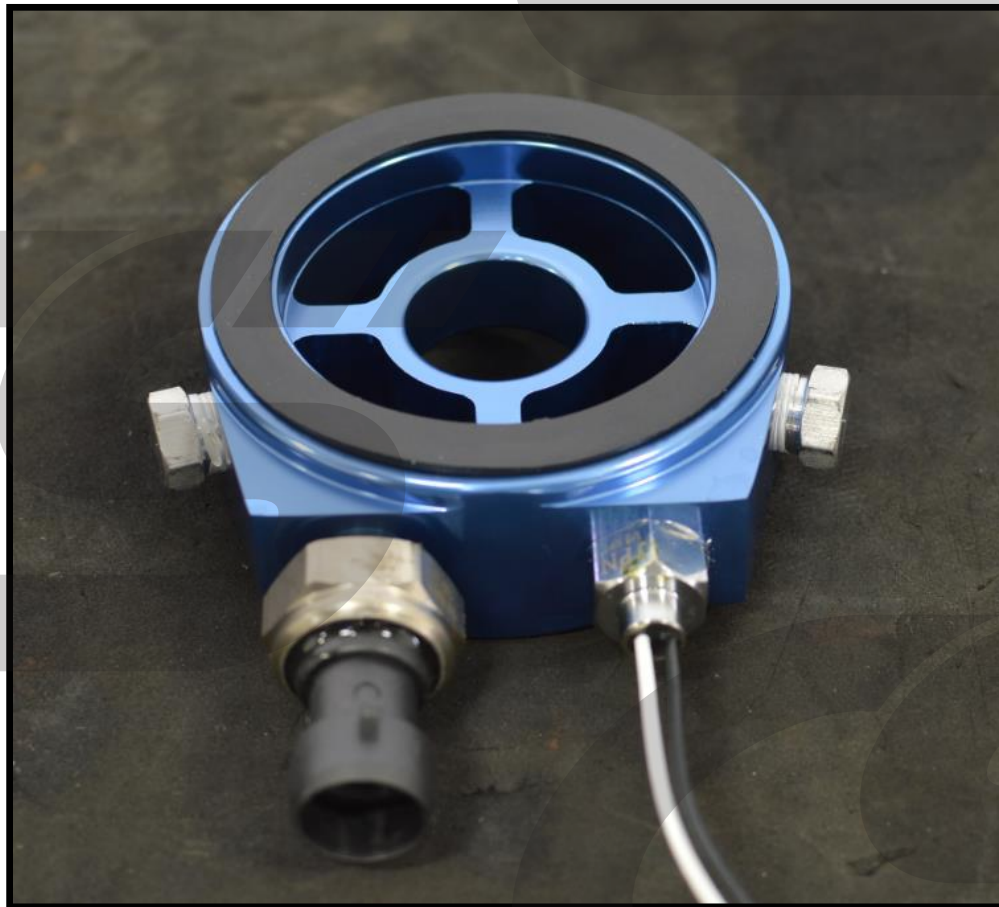

Figure 1a
- a) **Install the sensors into any of the NPT port** that provides proper clearance when installed in the vehicle, shown in **Figure 1a**. Check fitment of plate and sensor in the vehicle before next step.
- c) **Oil pressure and oil temperate sensor shown installed for example in Figure 1a.**